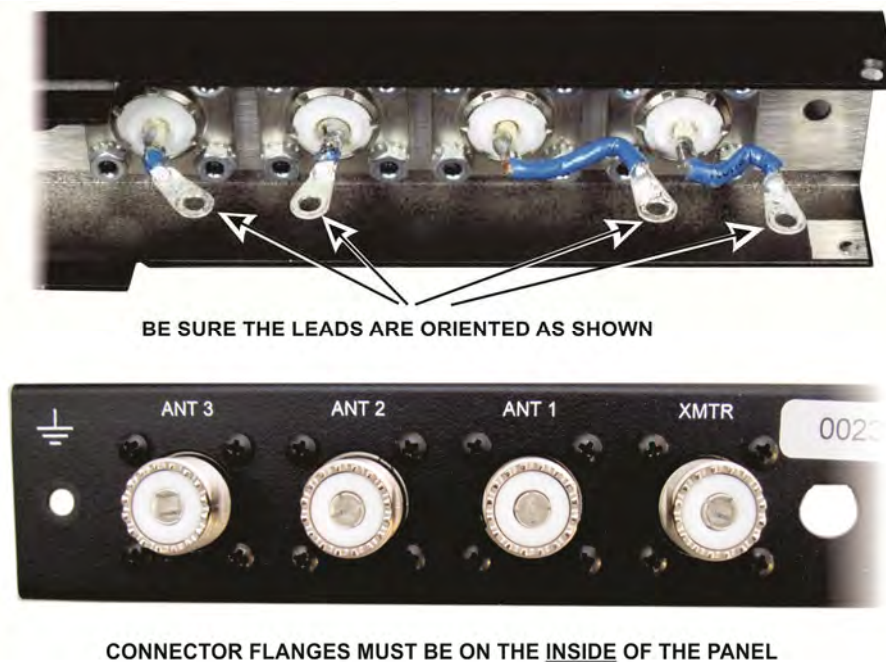

Figure 21. SO-239 Connectors Installed.
□ In the same manner, install the remaining SO-239 connectors on the rear panel, starting with the ANT3 connector at the end. Orient the connectors so the leads are as shown in Figure 21 and with the connector flanges on the inside of the rear panel.